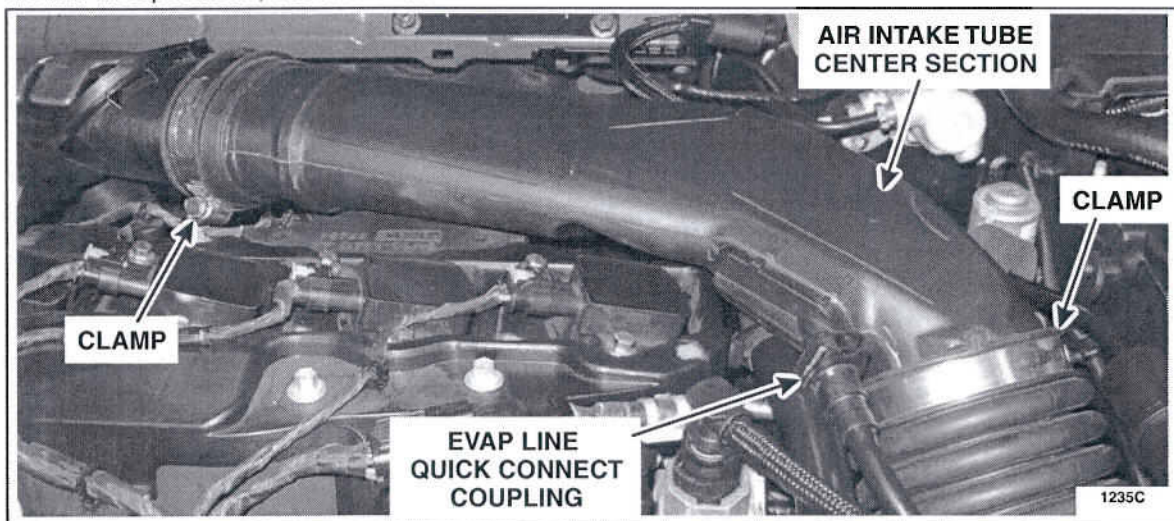

FIGURE 1
7. Disconnect the EVAP line quick connect coupling from the air intake tube center section. See Figure 1.
8. Loosen the 2 clamps and remove the air intake tube center section. See Figure 1.
28. Install the air intake tube center section. See Figure 1.
29. Connect the EVAP line quick connect coupling to the air intake tube center section and install the retention clip. See Figure 1.